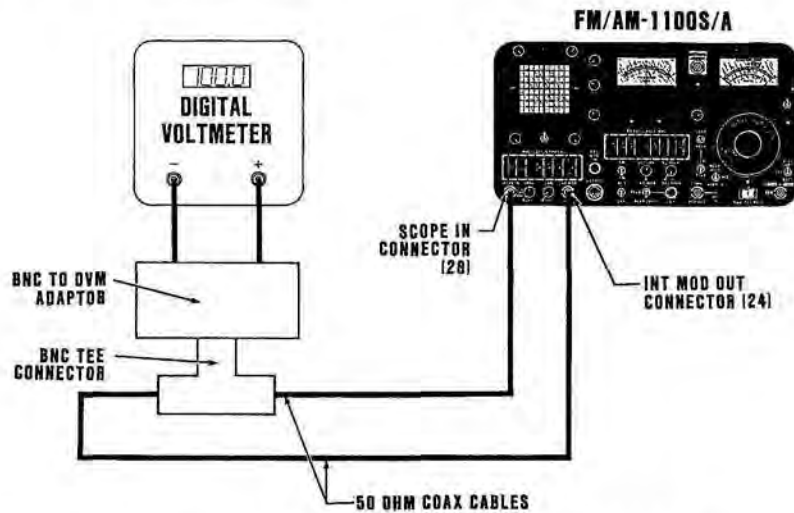
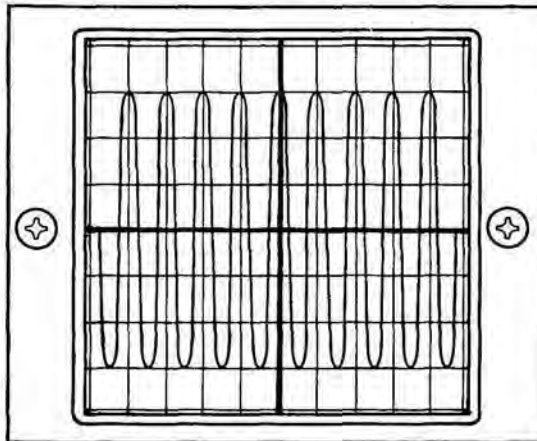

Figure 3-27 Oscilloscope Test Set-Up Diagram
Figure 3-28 Displayed Sinewave Measuring 6 Graticule Divisions Peak-to-Peak
1. Connect FM/AM-1100S/A to accessory equipment as shown in Figure 3-27.
4. Set PWR/OFF/BATT Switch (11) to "PWR". Allow a 30 second warm-up time from a cold start, as trace will not become visible until CRT achieves warm-up.
5. Adjust INTENSITY Control (37) and FOCUS Control (39) to obtain a sharp visible trace display.
6. Adjust HORIZ Control (38) and VERT Control (40) to center trace over major horizontal axis of CRT Display (36).
7. Adjust VAR/OFF Control (25) to display 21.2 mVRMS on Digital Voltmeter. Verify sinewave displayed on CRT Display (36) is 6 graticule divisions peak-to-peak (± 3 minor graticule divisions). (See Figure 3-28.)
8. Rotate DEV-VERT Control (33) to ".1 V/DIV". Change range setting on Digital Voltmeter to display 212 mVRMS.
9. Adjust VAR/OFF Control (25) to display 212 mVRMS on Digital Voltmeter. Verify sinewave displayed on CRT Display (36) is 6 graticule divisions peak-to-peak (± 3 minor graticule divisions). (See Figure 3-28.)
10. Rotate DEV-VERT Control (33) to "1 V/DIV". Change range setting on Digital Voltmeter to display 2.12 VRMS.
11. Adjust VAR/OFF Control (25) to display 2.12 VRMS on Digital Voltmeter. Verify sinewave displayed on CRT Display (36) is 6 graticule divisions peak-to-peak (± 3 minor graticule divisions). (See Figure 3-28.)
27. Rotate SWEEP Control (29) to "1 mS".
28. Adjust VAR/OFF Control (25) until DEVIATION/WATTS Meter (1) indicates 15 kHz deviation. Verify sinewave displayed on CRT Display (36) is 6 graticule divisions peak-to-peak (± 1.5 minor divisions). (See Figure 3-28.)
29. Rotate DEV/POWER Control (48) to "6 kHz" and DEV-VERT Control (33) to "6 kHz".
30. Adjust VAR/OFF Control (25) until DEVIATION/WATTS Meter (1) indicates 6 kHz deviation. Verify sinewave displayed on CRT Display (36) is 6 graticule divisions peak-to-peak (± 1.5 minor divisions). (See Figure 3-28.)
31. Rotate DEV/POWER Control (48) to "2 kHz", RCVR WIDE/MID/NARROW Switch (12) to "NARROW", and DEV-VERT Control (33) to "1.5 kHz".
32. Adjust VAR/OFF Control (25) until DEVIATION/WATTS Meter (1) indicates 1.5 kHz deviation. Verify sinewave displayed on CRT Display (36) is 6 graticule divisions peak-to-peak (± 1.5 minor division). (See Figure 3-28.)